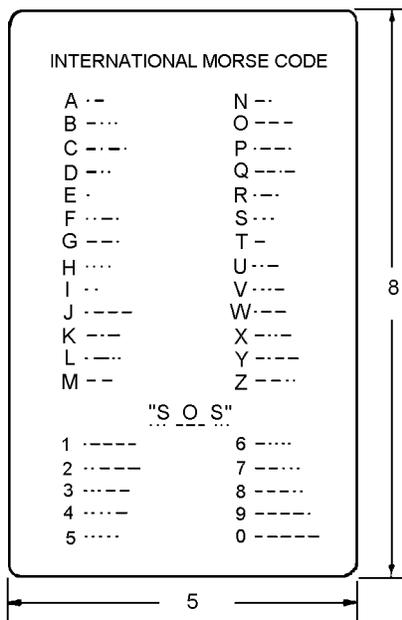

Figure 8-11. International Morse Code Patch
1. Letter markings (see figure 8-11) on unclothed side of patch using black waterproof ink.